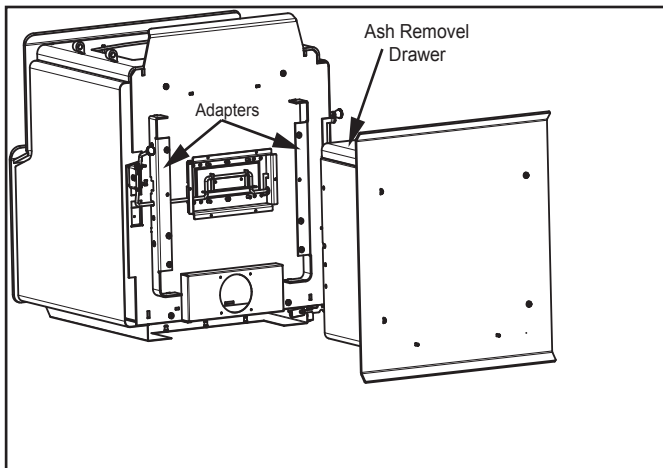

Figure 19.1
2. Slide pedestal over adapter on bottom of appliance and secure with four screws using Phillips head screwdriver (**Figure 19.1 on page 19**).